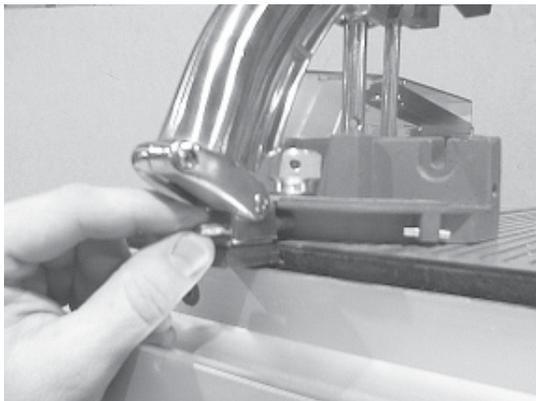

Figure C-81
1. The miter gauge mounts in the worktable slots. The face of the miter gauge angles from 30° right to 30° left (a 120° swing) and has three positive stops— 90°, 45° right, and 45° left. To use the stops, loosen the lock knob, push in the plunger and turn the miter gauge until the stop hits the plunger. See Figure C-81.